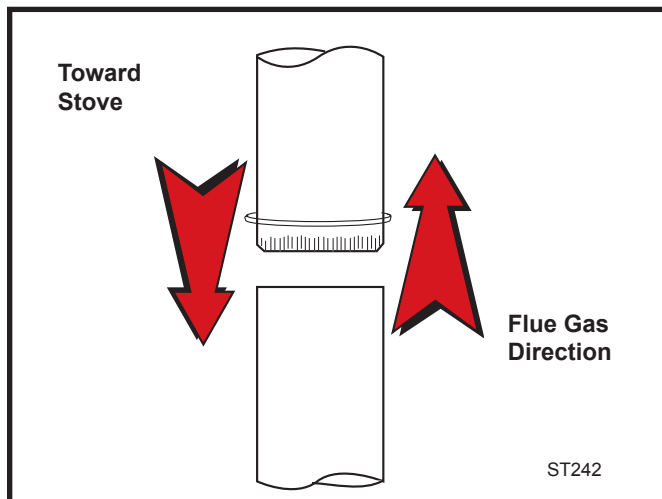

Fig. 5 Crimped sections always point toward the stove so that any liquid condensation will not leak out.
1. Insert the crimped end of the first section into the stove's flue collar, and keep each crimped end pointing toward the stove. (Fig.5) Using the holes in the flue collar as guides, drill 1/8" (3 mm) holes in the bottom of the first section of chimney connector and secure it to the flue collar with three #10 x 1/2" sheet metal screws.